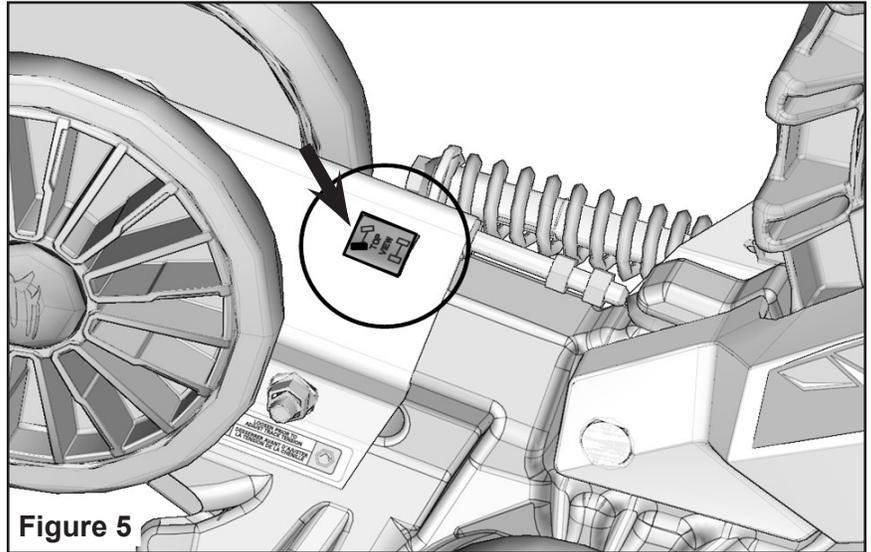

Figure 5
2. Identify and position each unit of the track system near the position indicated on the sticker. Figure 5.